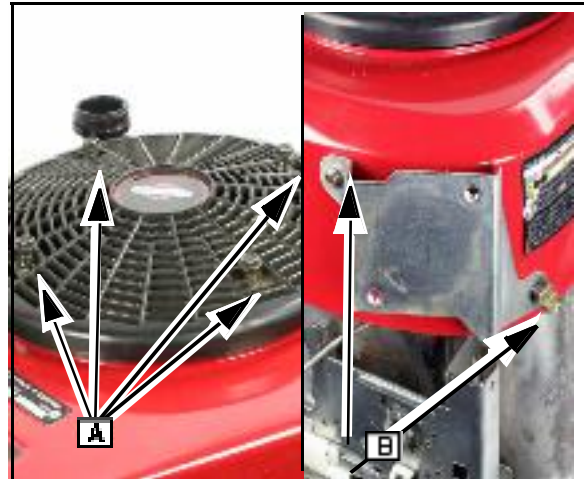

Fig. 6
2. Remove the four screws (A) that secure the rotating screen.
3. Remove the two mounting bolts ([B] Fig. 6) that secure the fuel pump mounting bracket.